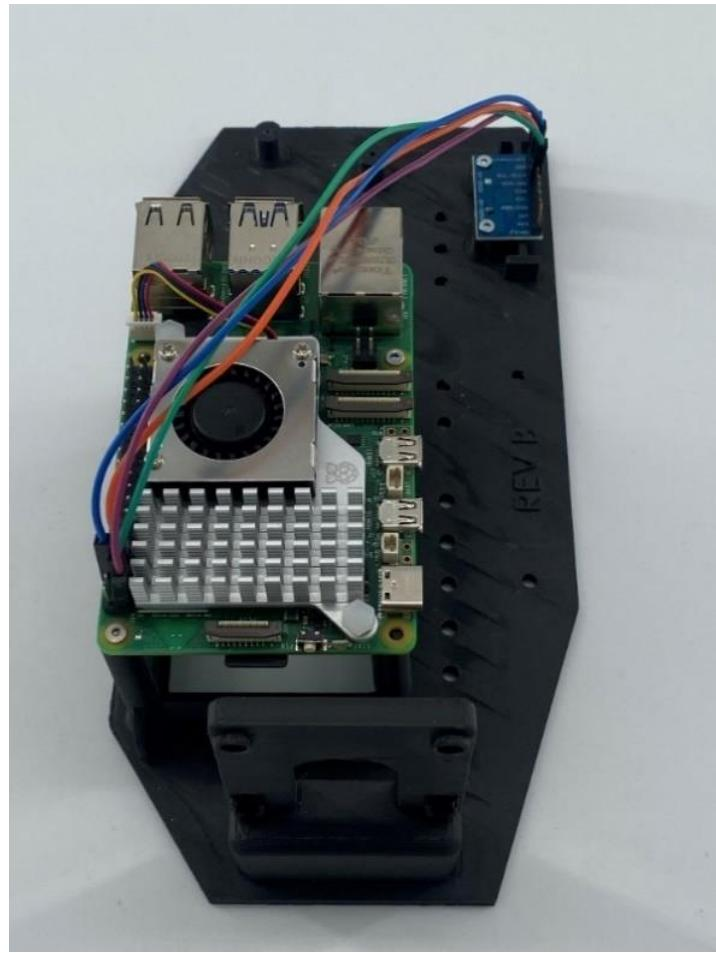

Figure 19. Connect Pi and IMU.
2. Screw in the Pi and IMU (two screws each) and connect them using the jumper wires (Figure 19).